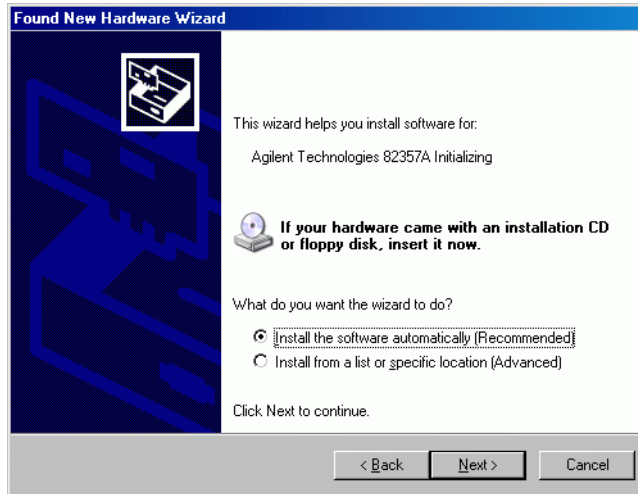

Figure 41 Found New Hardware Wizard Windows XP, first detection
- 4 To initialize the interface select **Option 1** and click **Next** and the initialization will start (see Figure 41).